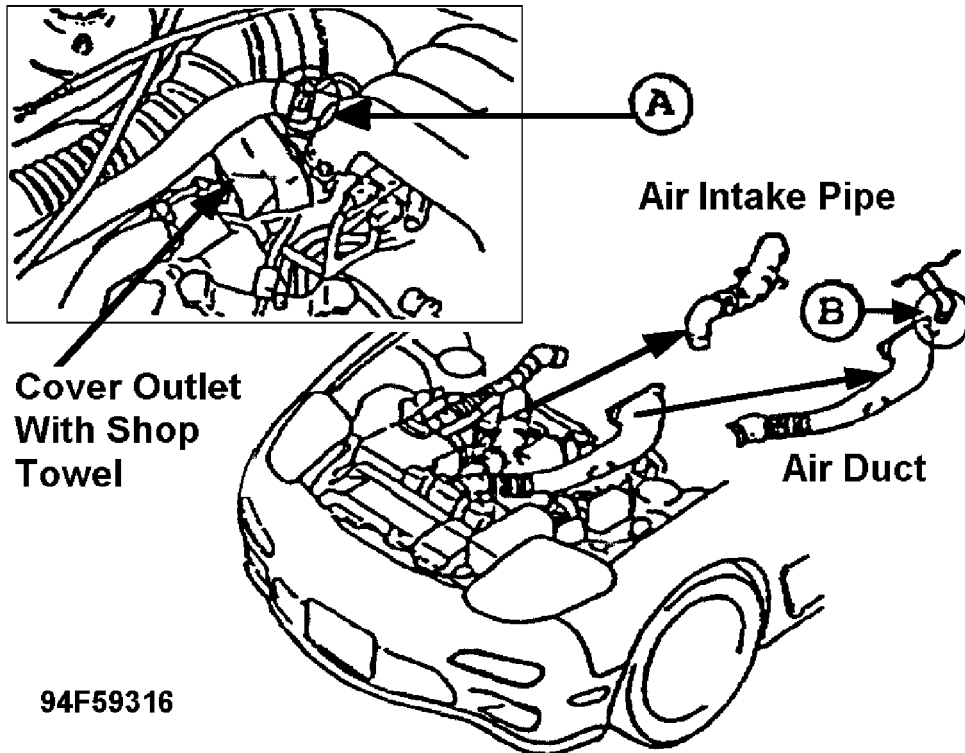

Fig. 3: Disconnecting the Air Pipe
9. Disconnect the air pipe at joint A shown in Fig. 3.
in Fig. 3.